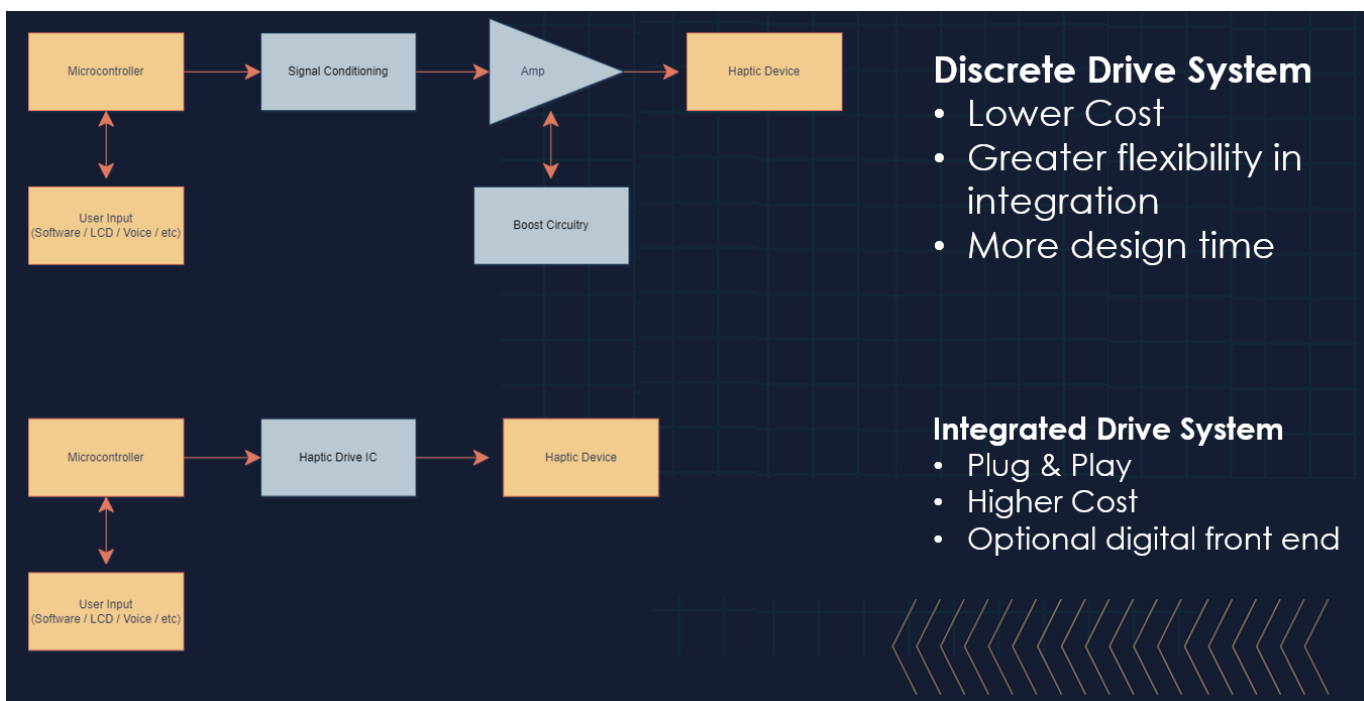

Figure 1
- To control Haptic device, you can design a custom drive circuit specifically for your needs or use an IC for simplicity (see Texas Instrument's DRV2605L) noted in Figure 1 above. Off-the shelf driver ICs incorporated many features like auto-resonance optimizing the efficiency of LRA. If you need any support for calibration routine, please reach out to PUI Audio Application engineering and we would be happy to provide detailed instructions. See the table below for a limited list of recommendations by PUI Audio- other available options may match your application's requirements.